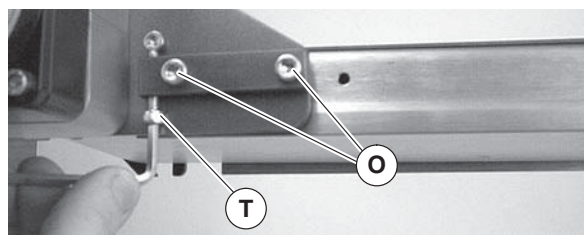

Figure 9
11. Tighten timing belt tensioner screw (Figure 9, item T) to 15 in-lb (1.7 Nm).